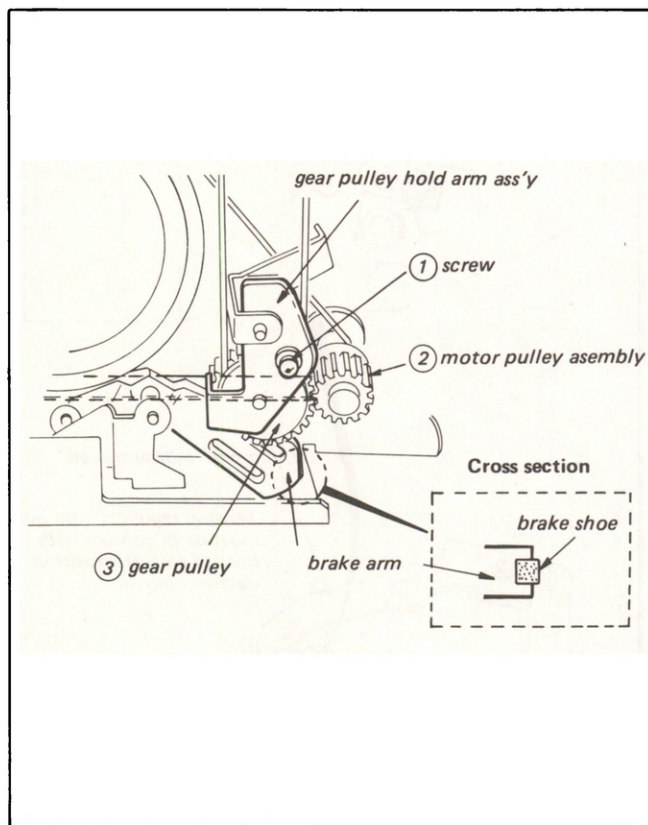

Fig. 3-20. Position adjustment of gear pulley hold arm assembly
1. Loosen screw (1) shown in Fig. 3-20, adjust the position of the gear pulley hold arm assembly so that the clearance between the motor pulley assembly (2) and the gear pulley (3) is 0.3 mm, and tighten screw (1).
1. Glue the brake shoe to the groove on the brake arm as shown in Fig. 3-20.